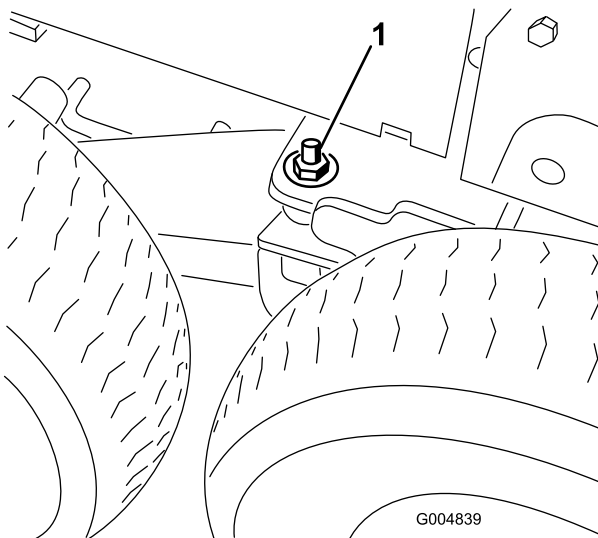

Figure 121
32. Remove the flat washer (1/2 inch) and nut (1/2 inch) installed on the stud on the bogie pivot (Figure 121).